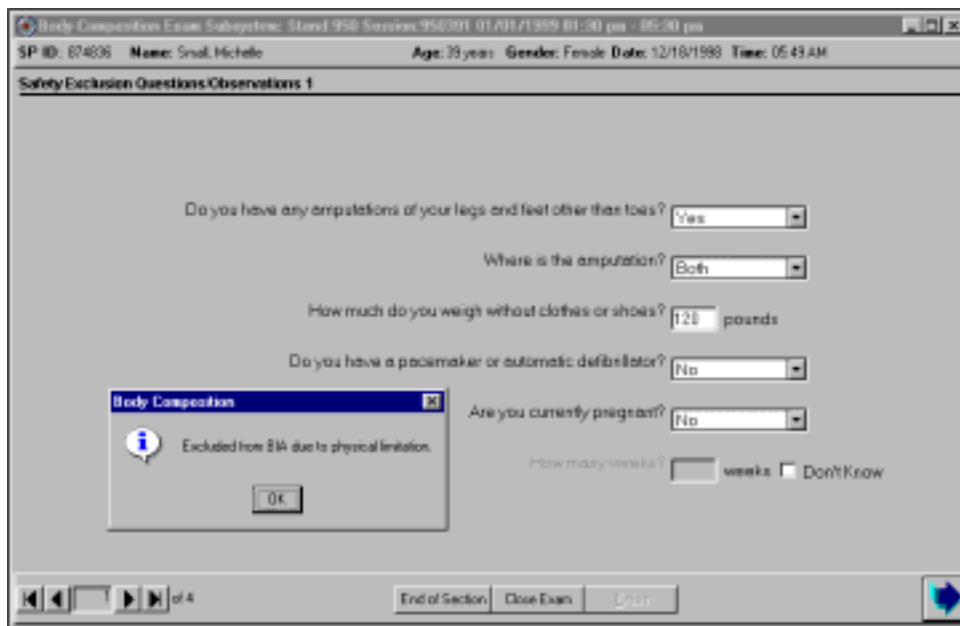

Figure 4-2. Shared exclusion questions (amputations 1)
- If the responses to the remaining questions are ‘No,’ when the Next button is pressed, the system will display a message: ‘Excluded from BIA due to physical limitation.’ See Figure 4-2.